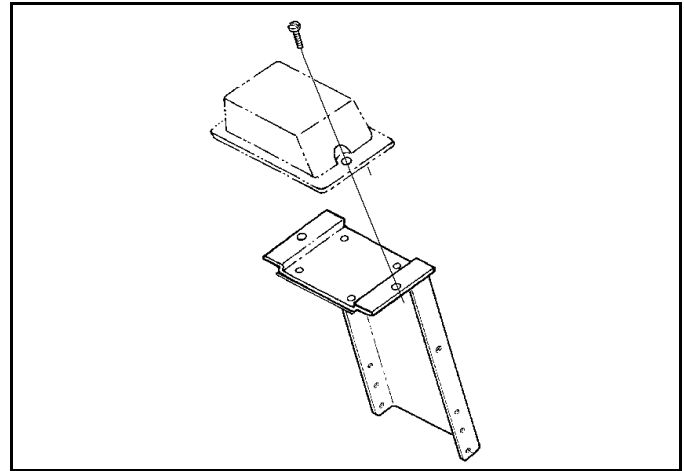

Figure 1-2
3. Position the Control Box on the top of the Adapter Plate and fasten it to the Adapter Plate with (2) 1/4" x 1-1/2" Cap Screws, Lock Washers and Nuts Provided. (See Figure 1-2)